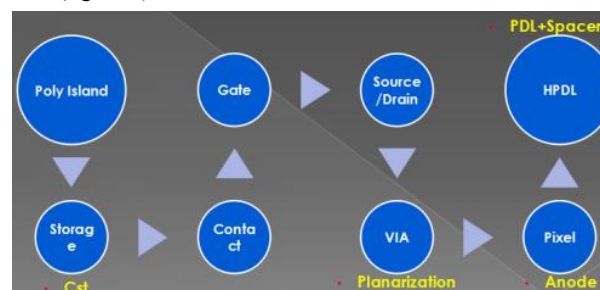

Figure 2. Arrangement of 8 mask top-gate TFT process
2.1. Structure and Solution: As the manufacturing technology develops, many kinds of LTPS solution has been come out. And mask number become less and less-10, 8, 5 mask solution. However, here we are going to discuss a common solution which uses 8 mask, P type Silicon, top gate and emission structure. The main arrangement of mask can be seen below (figure 2):